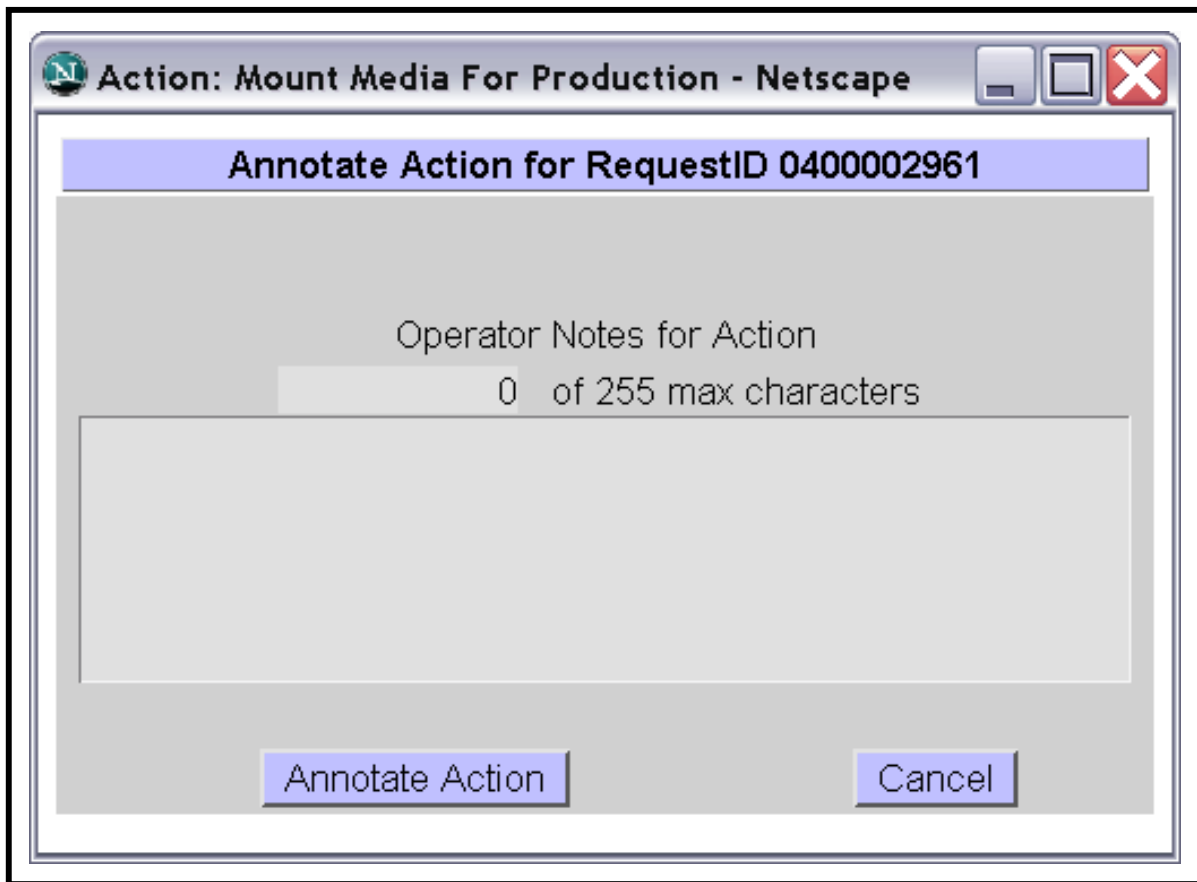

Figure 93. Annotate Action Page
The **Annotate Action** page (Figure 93) provides the full-capability operator with a means of adding notes to PMD actions.
- An **Annotate Action** dialogue box (Figure 93) is displayed.